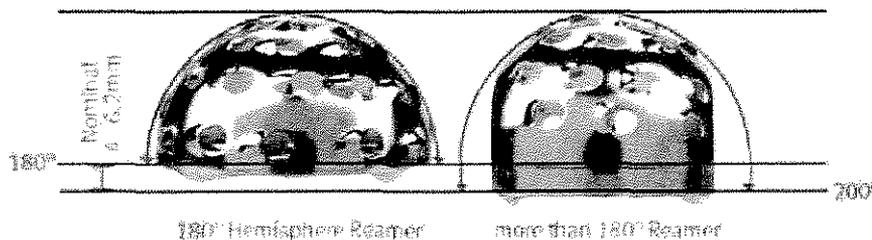

Fig. 4 180° hemispherical reamer versus a reamer that extends beyond 180°
**Note:** This technique demonstrates the use of 180° hemispherical reamers to prepare the acetabulum. If using reamers other than 180° hemispherical reamers, visual cues to assess reaming should be adjusted (Fig. 4).